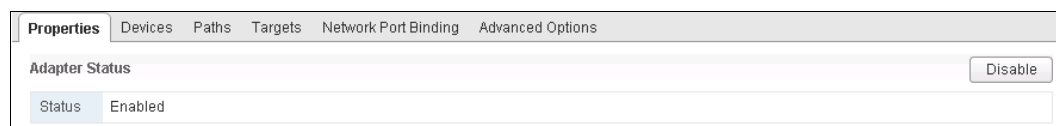

Figure 5-31 VMware: iSCSI Software Adapter properties
15. The iSCSI Software Adapter Properties window opens. Figure 5-31 shows that the initiator is enabled by default. To change this setting, click **Disable**.